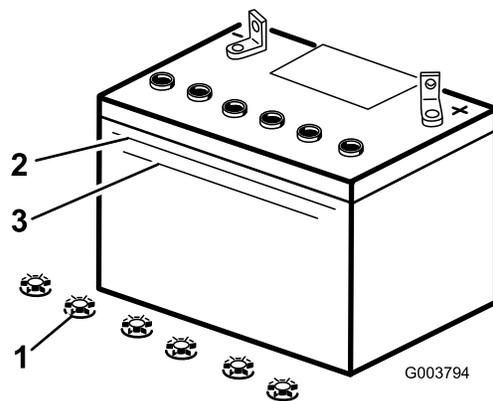

Figure 35
3. Look at the side of the battery. The electrolyte must be up to the Upper line (Figure 35). Do not allow the electrolyte to fall below the Lower line (Figure 35).
3. Remove the filler caps from the battery (Figure 35).
4. Slowly pour distilled water into each battery cell until the electrolyte level is up to the Upper line (Figure 35) on the battery case.
level is up to the Upper line (Figure 35) on the battery case.